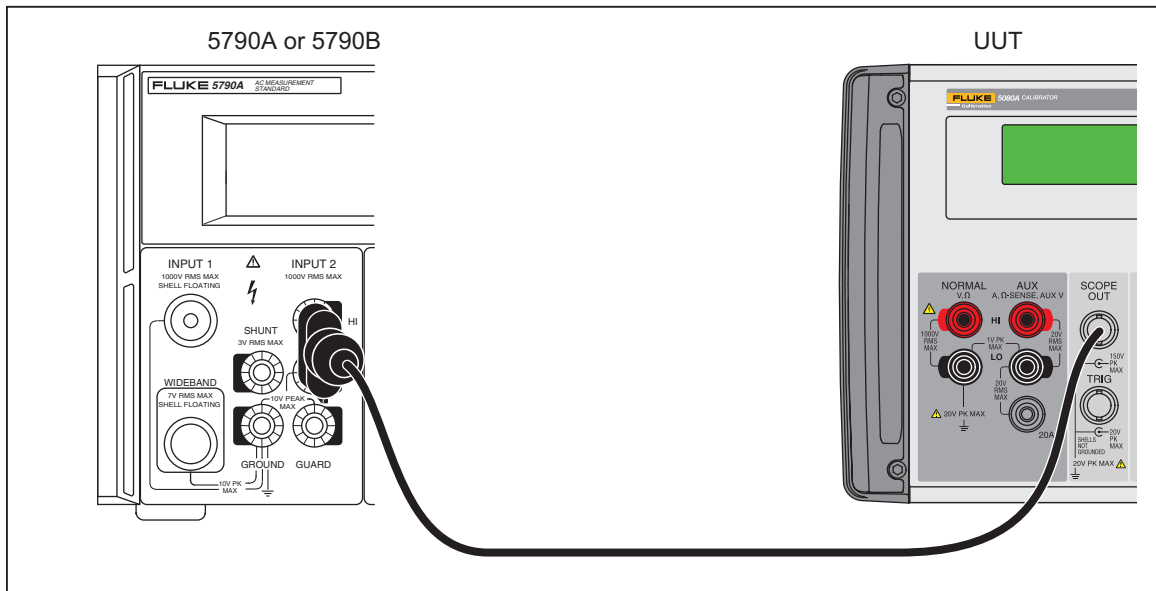

Figure 18. Product Mainframe to 5790A AC Measurement Standard Connections
2. Use the BNC cable and BNC to double-banana adapter to connect the scope out connector of the Product to the HP 3458A as shown in Figure 18.
2. Use the BNC cable, double-banana adapter, and the 50 Ω feed-through termination to connect the scope out connector of the Product to the 5790A or 5790B as shown in Figure 18.